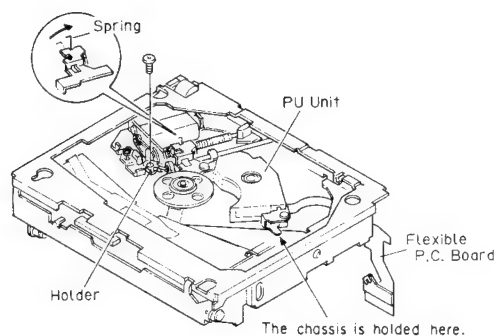

Fig. 8
7. Hook the spring as shown in the figure.(Fig. 8)
8. Remove the holder and screw.(Fig. 8)
9. Remove the flexible P.C. board.(Fig. 8)
10. Remove the PU unit.(Fig. 8)